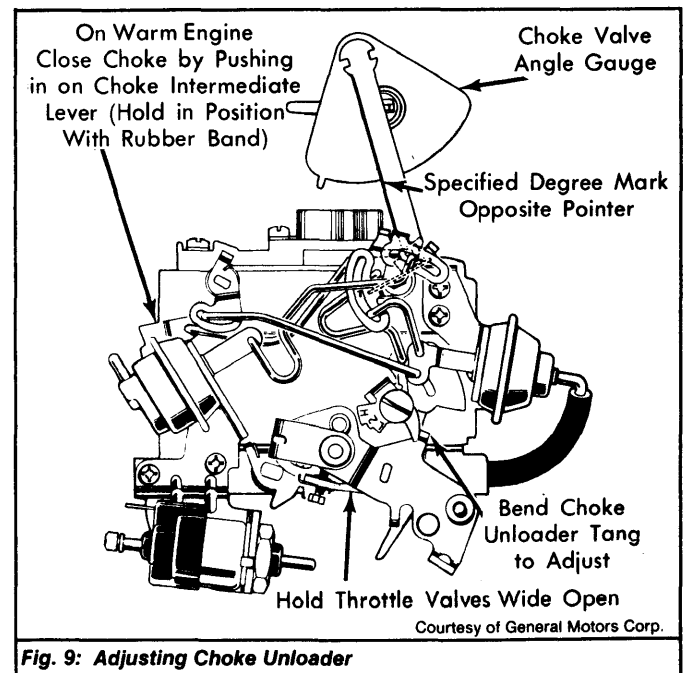

Fig. 9: Adjusting Choke Unloader
2) Bubble on choke valve angle gauge should be centered with specified degree mark opposite pointer. To adjust, bend choke unloader tang on throttle lever until bubble is centered. See Fig. 9.